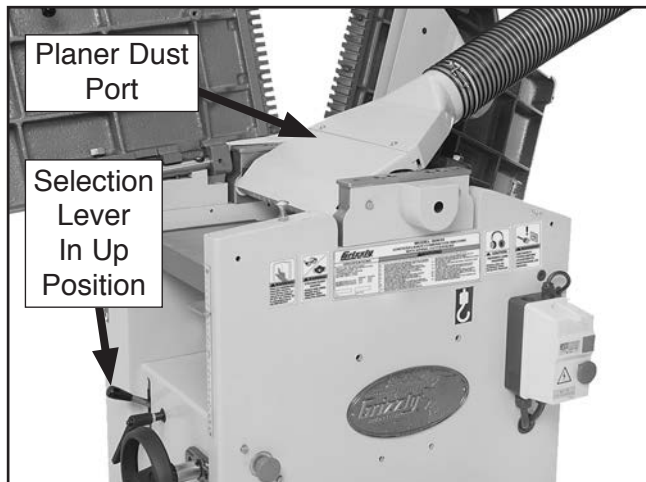

Figure 41. Example of machine converted to planer.
7. Swing planer dust port clockwise over cutterhead and connect dust collection hose, as shown in **Figure 41**.
8. Move jointer/planer selection lever to up position (see **Figure 41**).